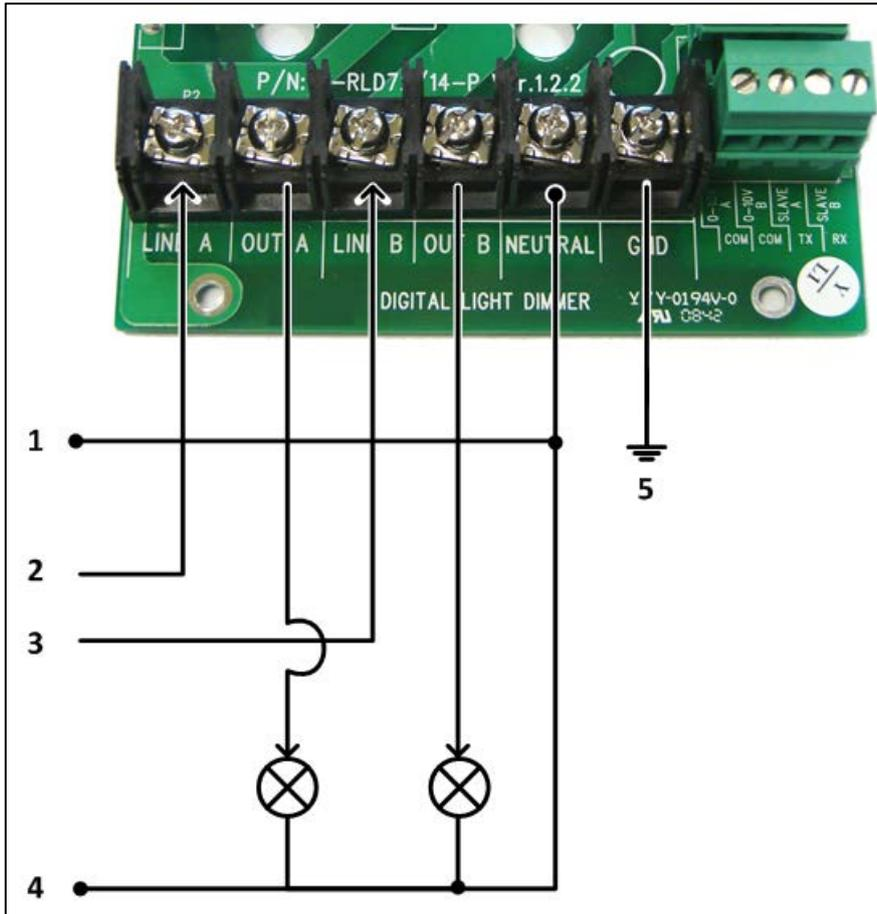
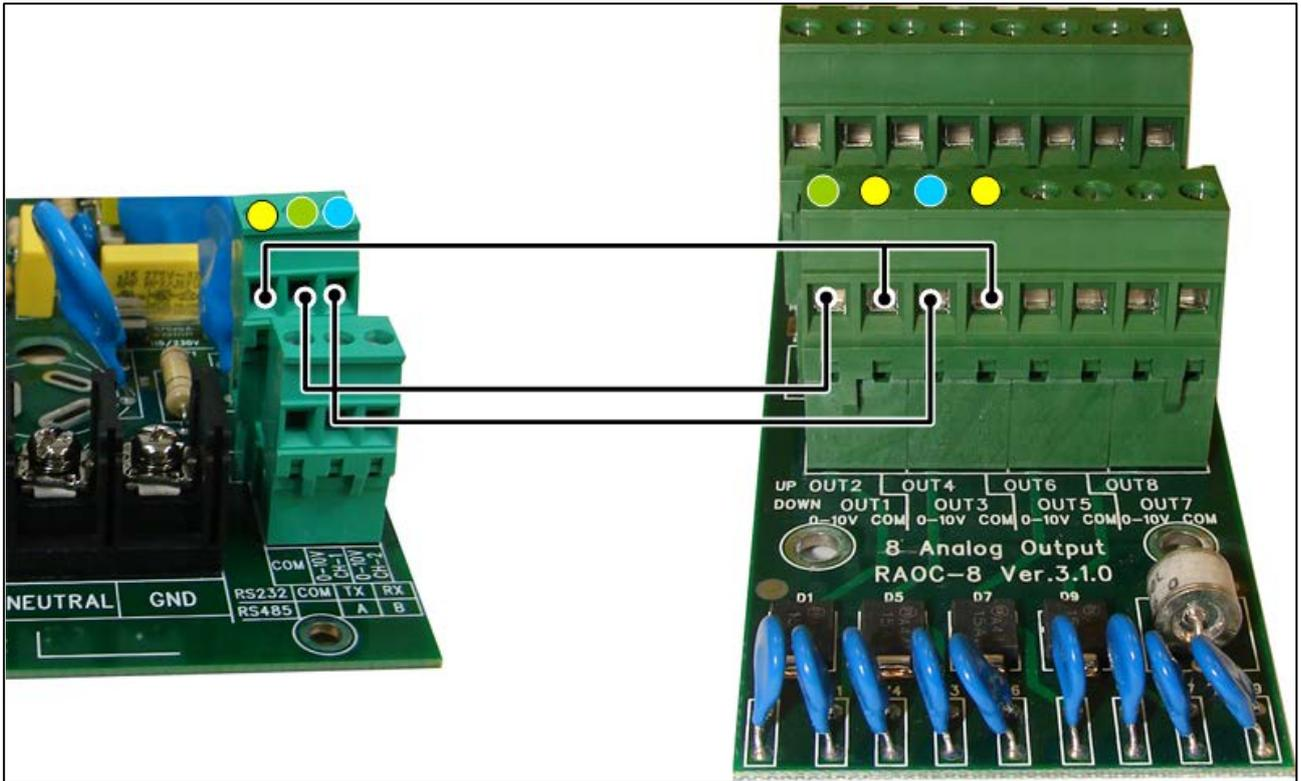

Figure 5: Farm Light 230V Two Phase Wiring
Figure 6: Farm Light (Board Version 2.1) to RAOC-8 (Analog Output) Wiring Diagram
1. Connect the 0 - 10 VDC (+) and COM (-) wires from the external device to the terminal ports "0-10V A", "0-10V B" and COM (Figure 5 and Figure 6).